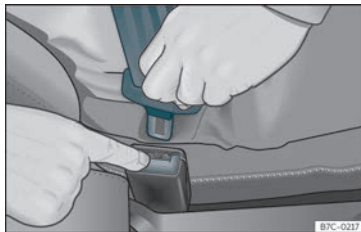

Fig. 14 Release the seat belt's buckle.
- Press the red button on the buckle »» Fig. 14. The latch plate is released from the buckle.